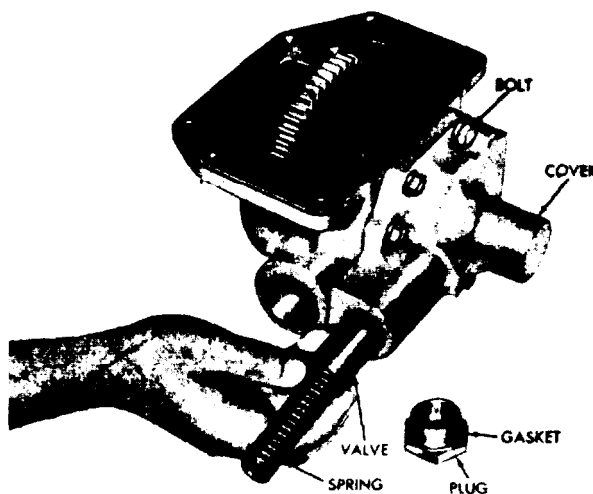

Figure 4C-28. Removing (or Installing) Converter Pressure Regulating Valve
4. Remove the snap ring, clutch pressure regulator valve and spring from the pump cover (see Figure 4C-29 on page 4C-24).